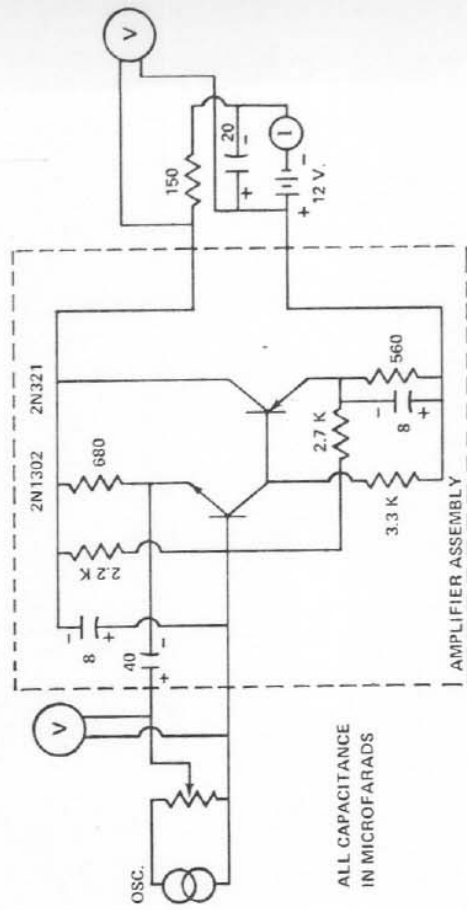

Figure 3 - Test Setup
**7. Test Procedure:** (See Figure 3)